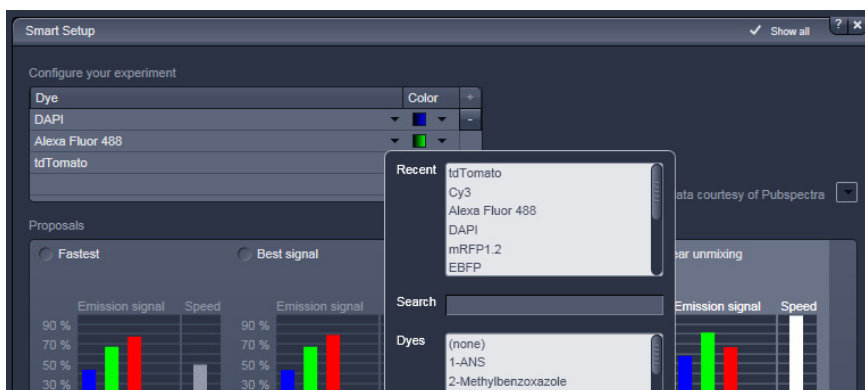

Fig. 40 Configure your experiment
- Simply choose the dye(s) used from the list dialog, and assign signal display color(s), see also Fig. 40.